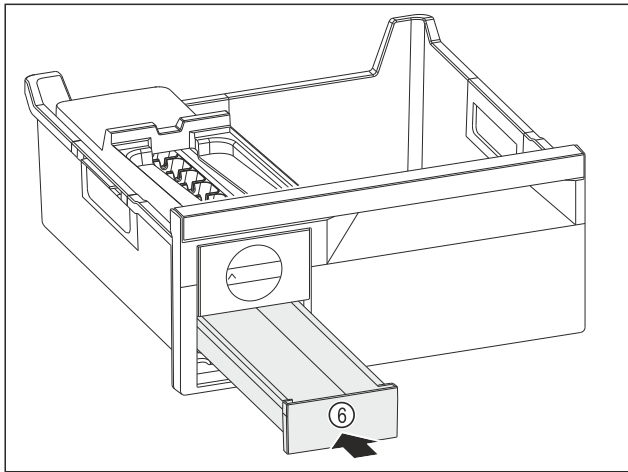

Fig. 146
- ▶ Insert the ice cube drawer Fig. 146 (6).